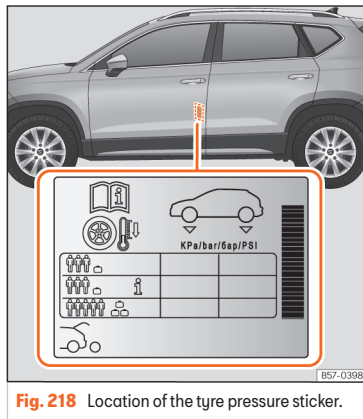

Fig. 218 Location of the tyre pressure sticker.
- Adjust tyre pressure to the load being carried by the vehicle »» **Fig. 218**.
The values of the tyre pressure are shown on the sticker label located on the read frame of the front left door »» Fig. 218.
The tyre pressure must be adjusted according to the load the vehicle is carrying. If the vehicle is going to be fully loaded, increase the tyre pressure to the maximum load value shown on the sticker label »» Fig. 218.
In the case of a minimised temporary spare wheel (125/70 R16 or 125/70 R18) inflate to a pressure of 4,2 bar as indicated on the tyre pressure label »» Fig. 218.
Depending on the vehicle, tyre pressure can be adjusted to medium load to improve driving comfort [tyre pressure **i** »» Fig. 218]. When driving with comfort tyre pressure fuel consumption may increase slightly.
- **The driver is responsible for ensuring that all of the vehicle tyres are correctly inflated to the right pressure. The recommended tyre pressure is indicated on the label »» Fig. 218.**
- **Tyre pressure should be that indicated on the label when the tyres are cold at all times »» Fig. 218.**